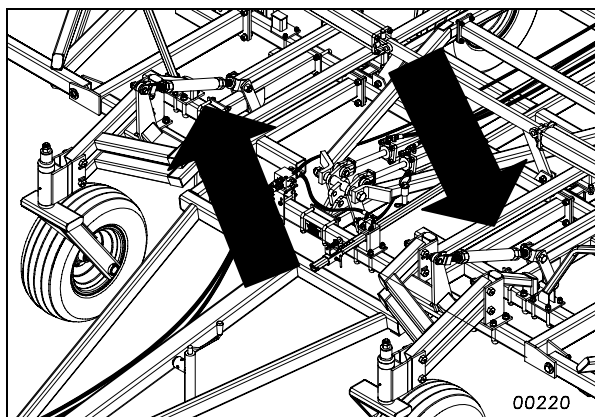

Figure 1
8. Pre-leveling of machine can be done on a concrete slab or good level surface. Lower machine so sweeps are 1-2" off of ground on the center frame. Adjust the turnbuckle (Figure 1) at the front of machine to level it from front to back. (Shorten to bring front down, extend to bring front up.) Level machine with the front row shanks just slightly deeper or lower than the back.